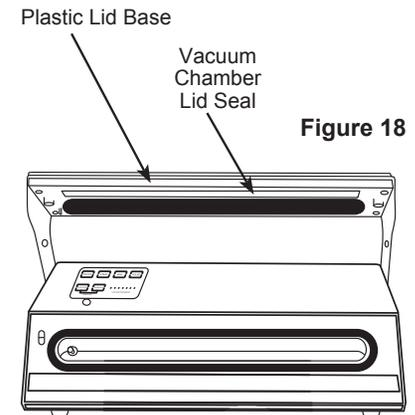

Figure 18
5. Remove the **Vacuum Chamber Lid Seal** from the groove in the **Plastic Lid Base** (Figure 18).